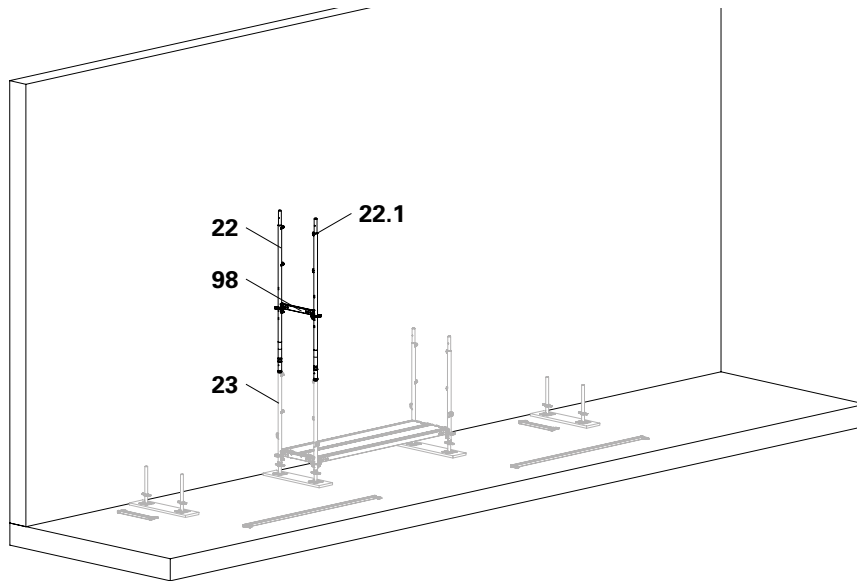

Fig. B2.05
2. Fit Horizontal Ledger UH-2 67 between the Easy standards (**98**). Secure the wedges. (Fig. B2.05)